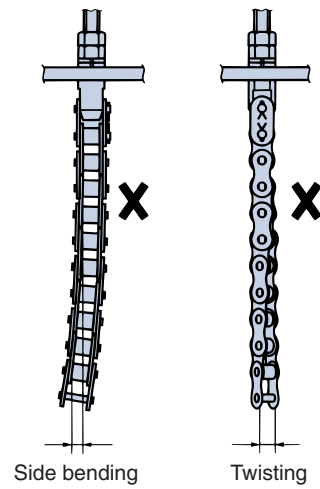

Fig. 29 Twisting of the roller chain
- 4) Inspection of twisting and side bending of the roller chain. If partial twisting or side bending of the chain occurs, the complete roller chain should be replaced. (Fig. 29)